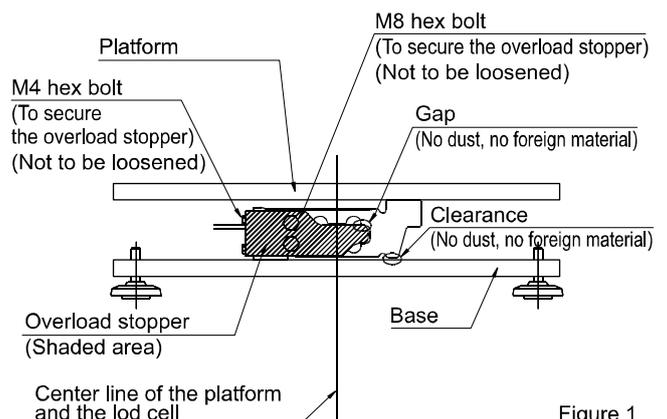

Figure 1
*Refer to Figures 1 and 2.
(1) Do not loosen the M4 and M8 hex bolts that secure the overload stopper. Doing so will result in the overload stopper not functioning properly.
(2) If dirt and dust accumulate in the gap or clearance of the load cell, remove them carefully so that no load is applied to the load cell and the overload stopper.
(3) Do not apply a shock or a load exceeding the maximum safe overload to the overload stopper*. The gap between the load cell and the overload stopper will be widened.
*Refer to the shaded area in Figure 1.